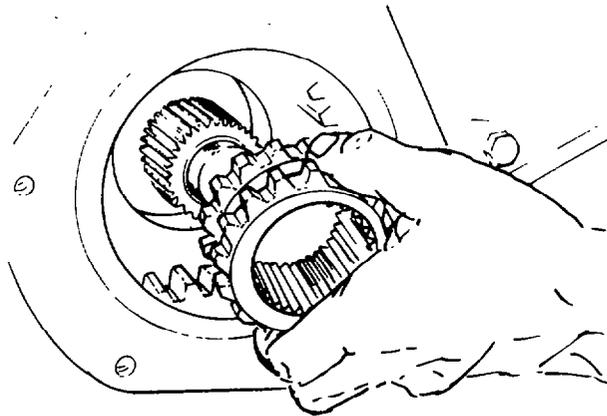

Fig. 175 — Removing Fourth/Fifth Gear Sliding Clutch
- m. Remove the fourth/fifth gear sliding clutch from the mainshaft (see fig. 175).